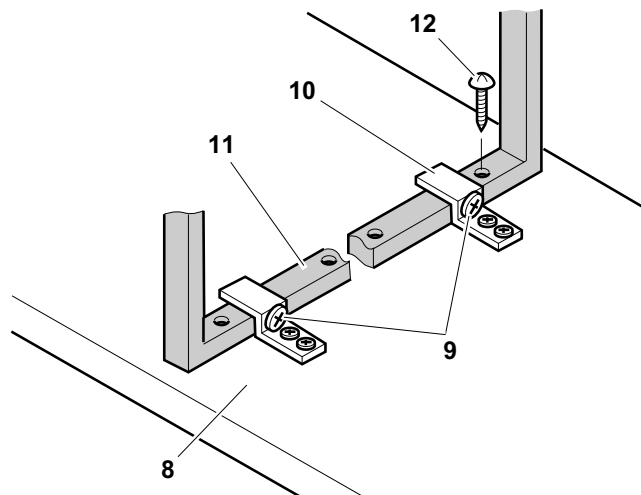

Fig. 14
- The front panel **8** is adjusted with the two raised-head screws **9** on the middle transverse tube **11**, and fixed with a screw **12**. If necessary, secure the bed frame and the front panel at the top with a G-clamp and check the front-panel gap, see **Fig. 14**.